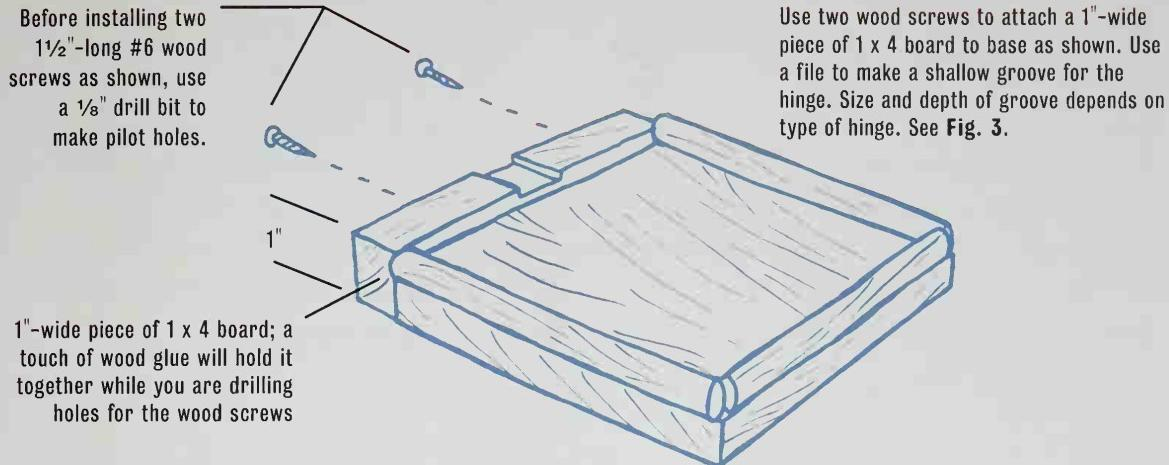
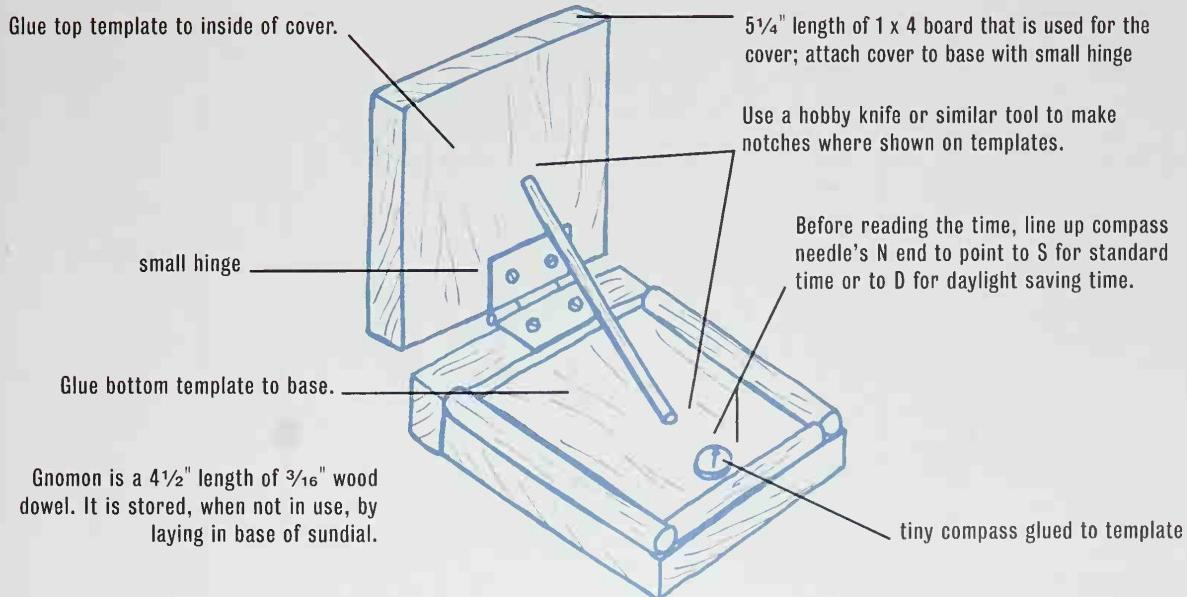

Fig. 2
Fig. 3
3. Using Fig. 2 as a guide, use a small file to make a groove on a 1"-wide piece of a 1×4 board so a small hinge can be attached to it. (See also Fig. 3.) After you have made the groove, glue this piece to the base as shown. For additional strength, you can use two wood screws as shown.
4. Using Fig. 3 as a guide, attach hinge to cover and base, as shown, with four $\frac{1}{2}$ "-long #6 wood screws.